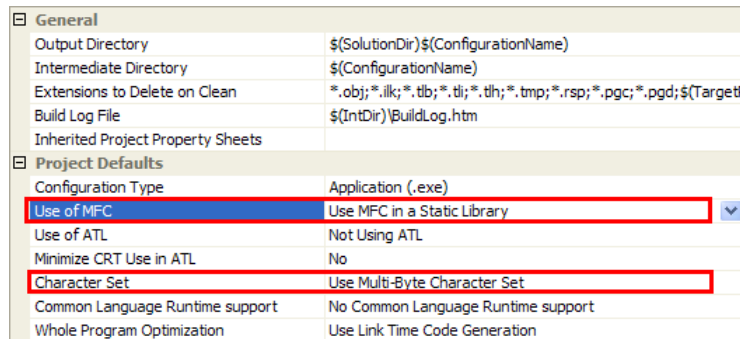

Figure 15. Visual Studio Properties
2. Selected the project properties as shown in Figure 15.